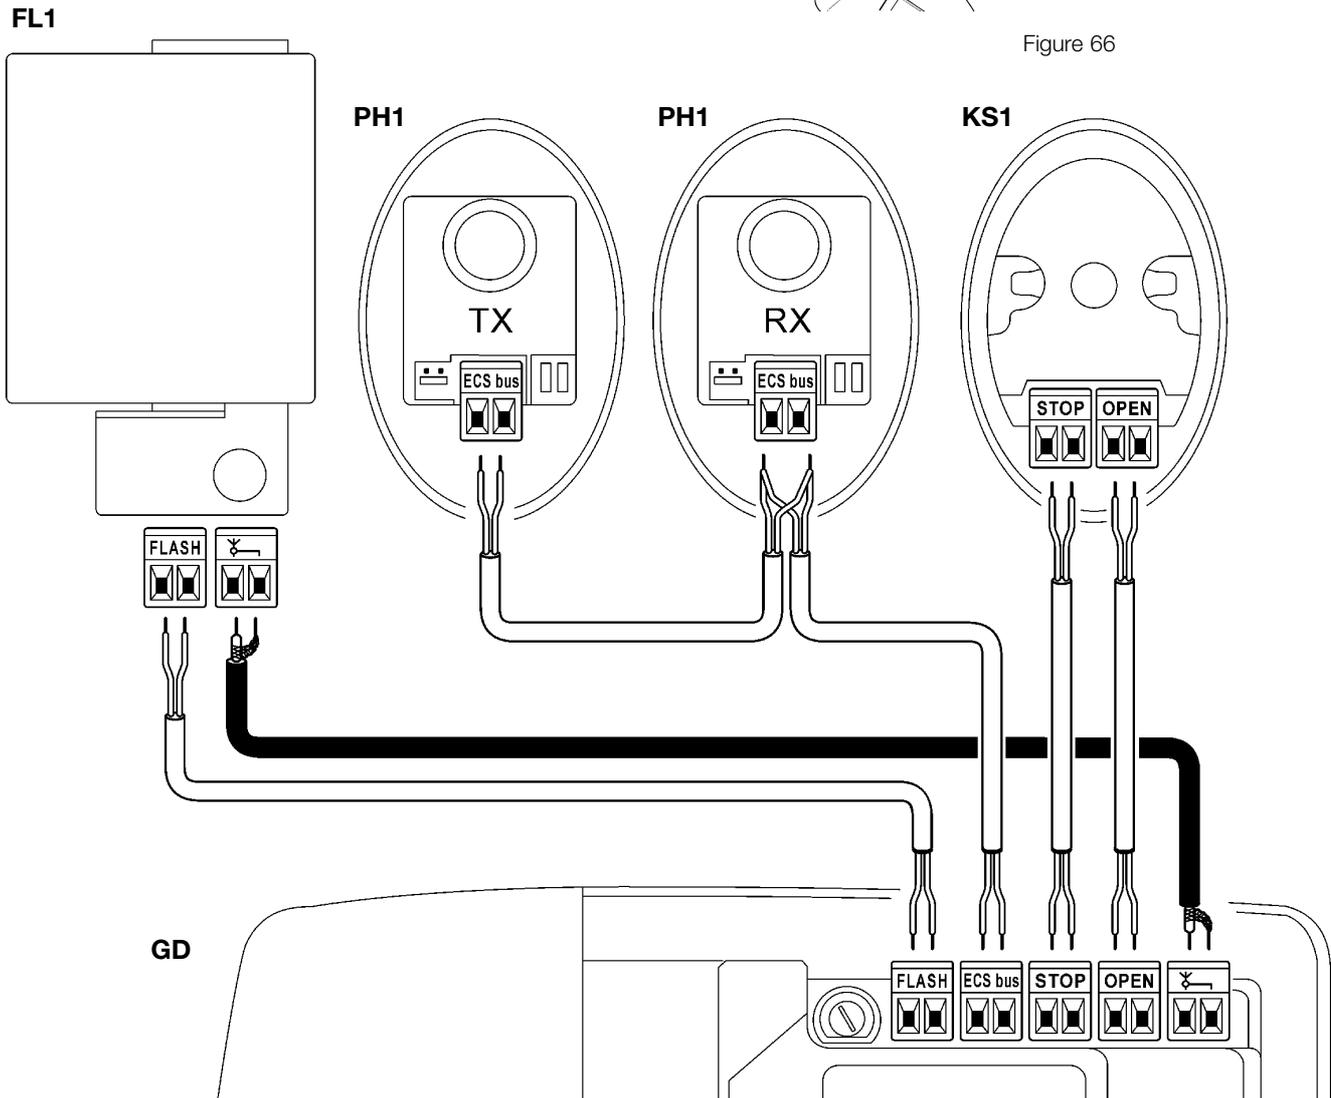

Figure 65
3 Refer to figure 65 for the electrical extra low voltage connection of the various devices to the control unit terminals.
- For most connections you do not need to observe any polarity; only for the shielded cable of the aerial incorporated in the FL1 flashing light (optional accessory), it is necessary to connect the central core and the shield as shown in figure 65.
1 Prepare the technical documentation for the automation, which must include at least: assembly drawing (e.g. figure 1), wiring diagram (e.g. figure 65), analysis of hazards and solutions adopted, manufacturer’s declaration of conformity of all the devices installed. For GD use Annexe 1 “EC Declaration of Conformity of the GD components”